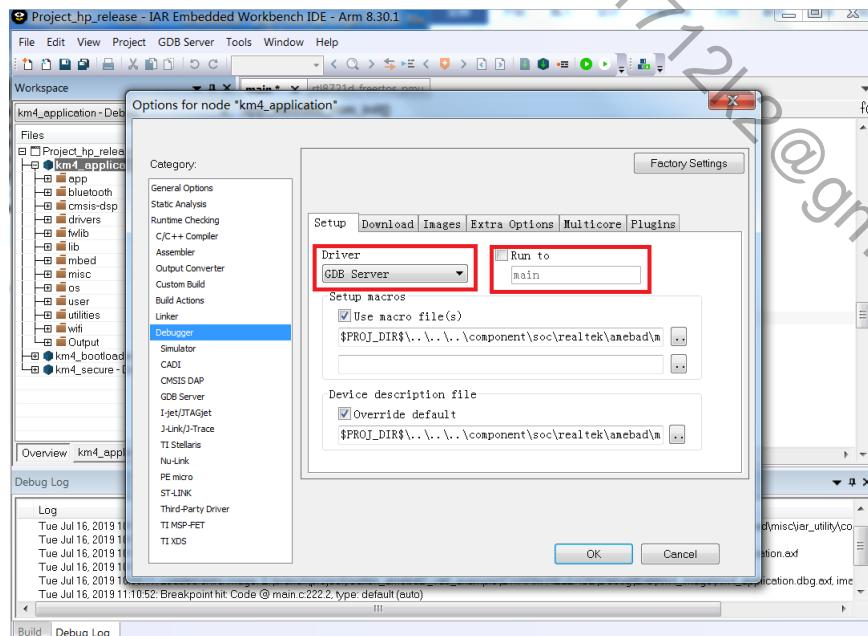

Fig 6-15 RLX Probe setup
- (3) If using RLX Probe, check whether the RLX Probe setting is correct.
- Click **Project > Options > Debugger > Setup > Driver**, choose “GDB Server” and don not choose “Run to”, as Fig 6-15 shows.